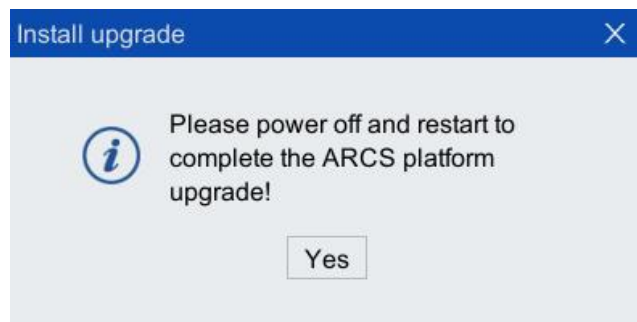

Figure 8-53 "Please power off and restart to complete the ARCS platform upgrade!" prompt box
- Step3. After the upgrade is completed, the "Please power off and restart to complete the ARCS platform upgrade!" prompt box as shown in Figure 8-53 pops up. After clicking the <OK> button, power off and restart to complete the platform update.